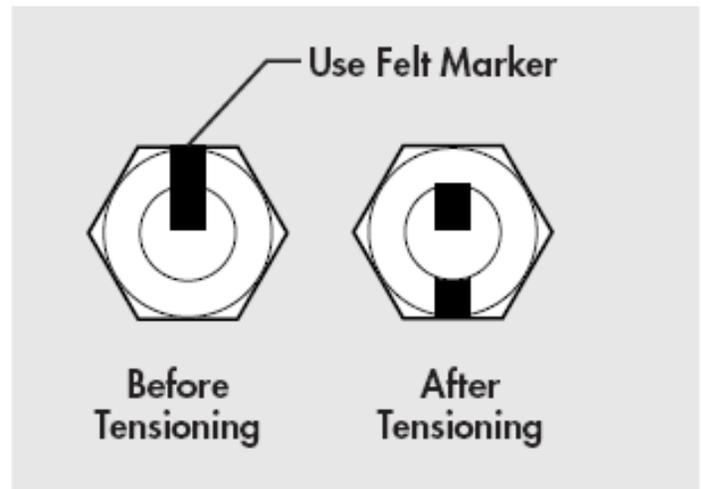

FIGURE 1-1B:
- 1/2 TURN (180°) as shown in Figure 1-1b, longer than 4 diameters (“After Tensioning”)